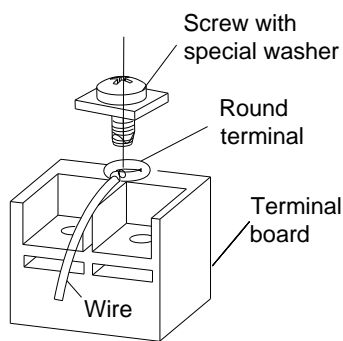

Figure 3-2-7
- 4) Position the round terminal wire, and replace and tighten the terminal screw with a screwdriver.( Figure 3-2-7)